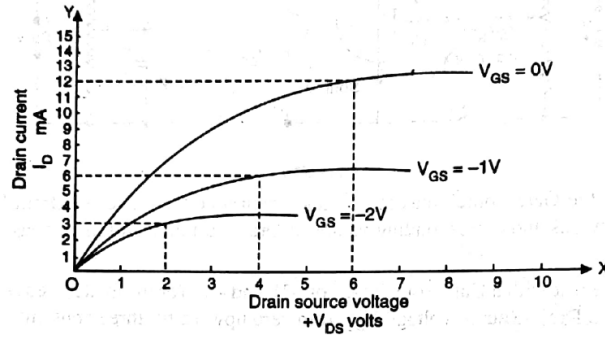

Fig. 8: An Indicative Curve of Output Characteristics of a FET
6. For output characteristics draw graphs between Drain current  $I_D$  taken along Y-axis and Drain- Source voltage  $V_{DS}$  taken along x-axis for various values of Gate-source voltage  $V_{GS}$  on the same graph (Figure 8)